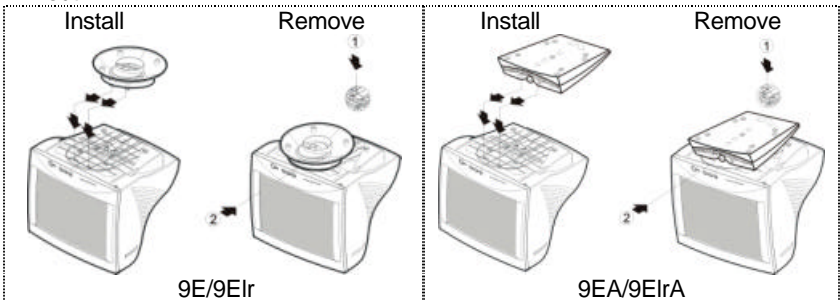

Figure 1 Installing and Removing the Swivel Base
- ? Carefully turn the monitor on its side or upside down. (see figure 1)